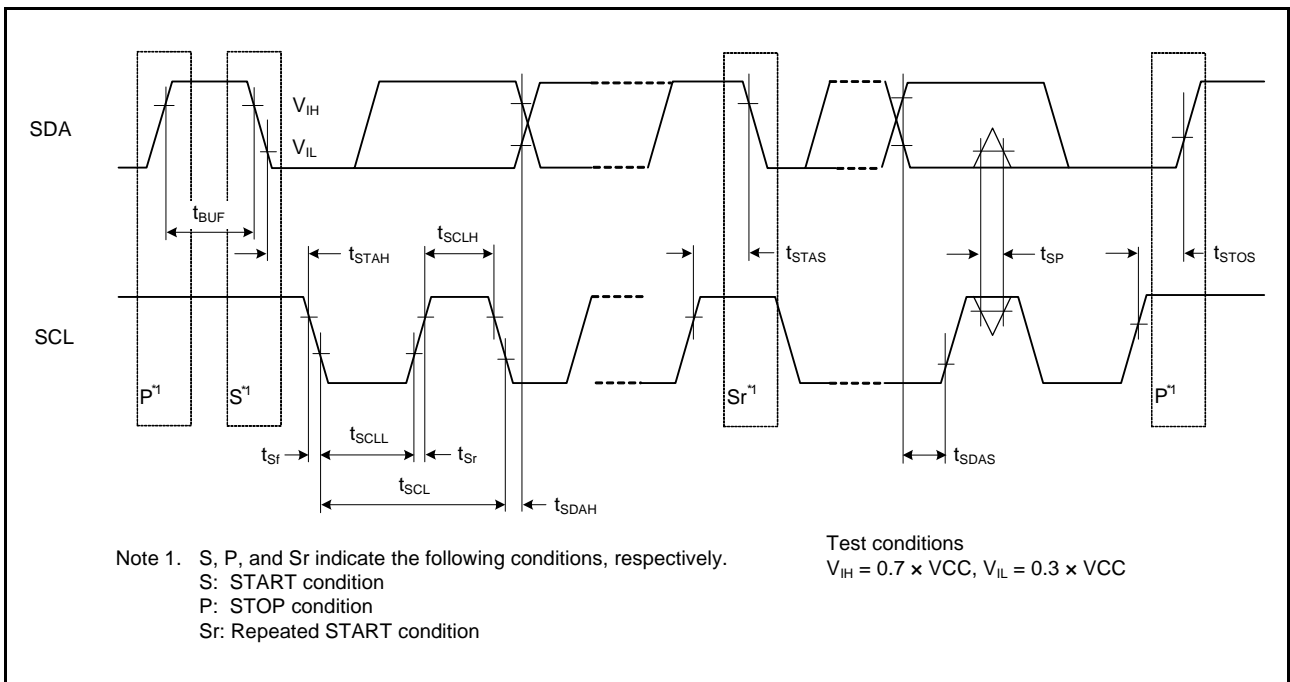

Figure 2.61 IIC Bus Interface Input/Output Timing and Simple I2C Bus Interface Input/Output Timing
| RIIC(Standard mode, SMBus) | SCL cycle time                      | $t_{SCL}$  | $6 (12) \times t_{IICcyc} + 1300$ | —                         | ns   | Figure 2.61     |
| RIIC(Fast mode)            | SCL cycle time                      | $t_{SCL}$  | $6 (12) \times t_{IICcyc} + 600$  | —                         | ns   | Figure 2.61     |